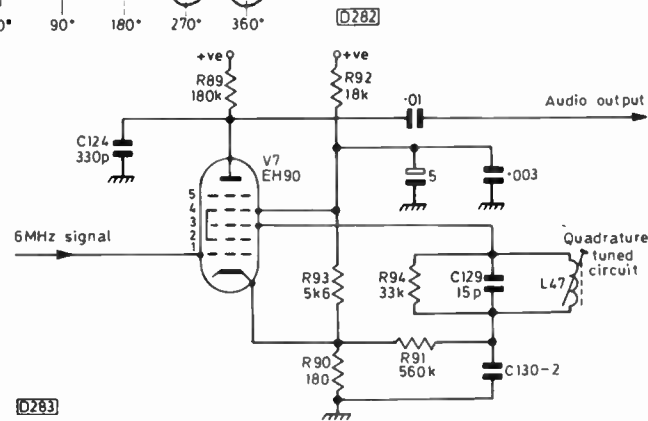

Fig. 2: Locked-oscillator valve f.m. demodulator circuit.
Let's start with something simple, the valve locked-oscillator detector circuit used in a number of GEC/Sobell dual-standard sets. This is shown in simplified form in Fig. 2. The frequency-modulated 6MHz signal is applied to the control grid (1). The locally generated 6MHz signal is produced by the parallel tuned circuit L47/C129/R94 which is connected between the valve's third grid and cathode. The two signals are in quadrature, and together control the current flowing through the anode load resistor R89. The current flowing through the valve and the voltage thus developed across the anode load resistor depend on the phase relationship between the two signals: thus detection occurs, i.e. we get an audio signal across R89. C124 provides de-emphasis – to compensate for the h.f. boost given to the audio signal at the transmitter to improve the overall signal-to-noise ratio.